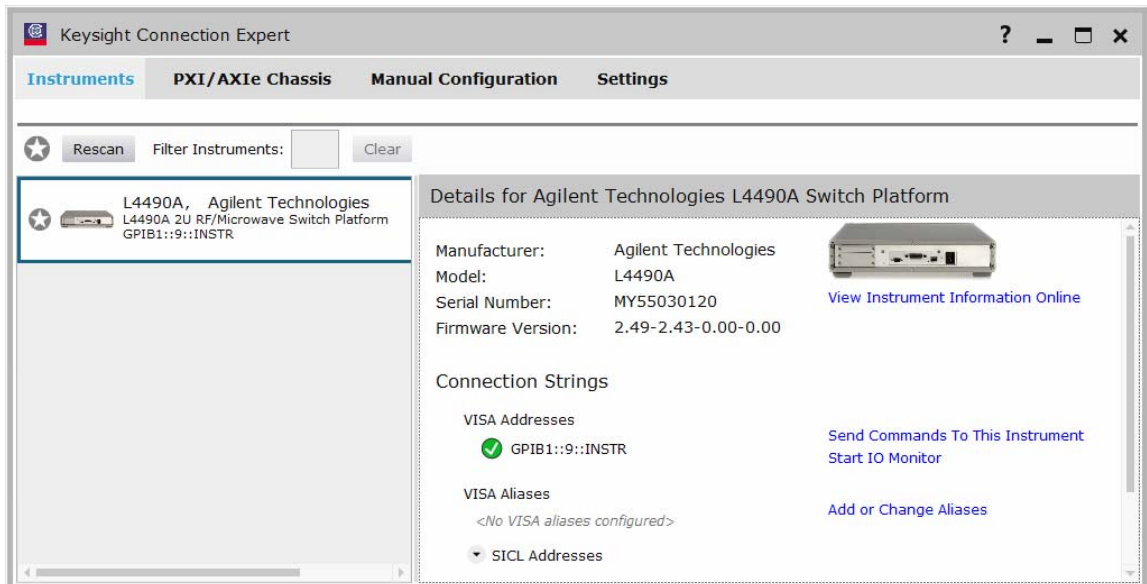

Figure 4-10 GPIB instrument added
- 5 The J7204/5/A/B is now added as shown in **Figure 4-10** on page 52.